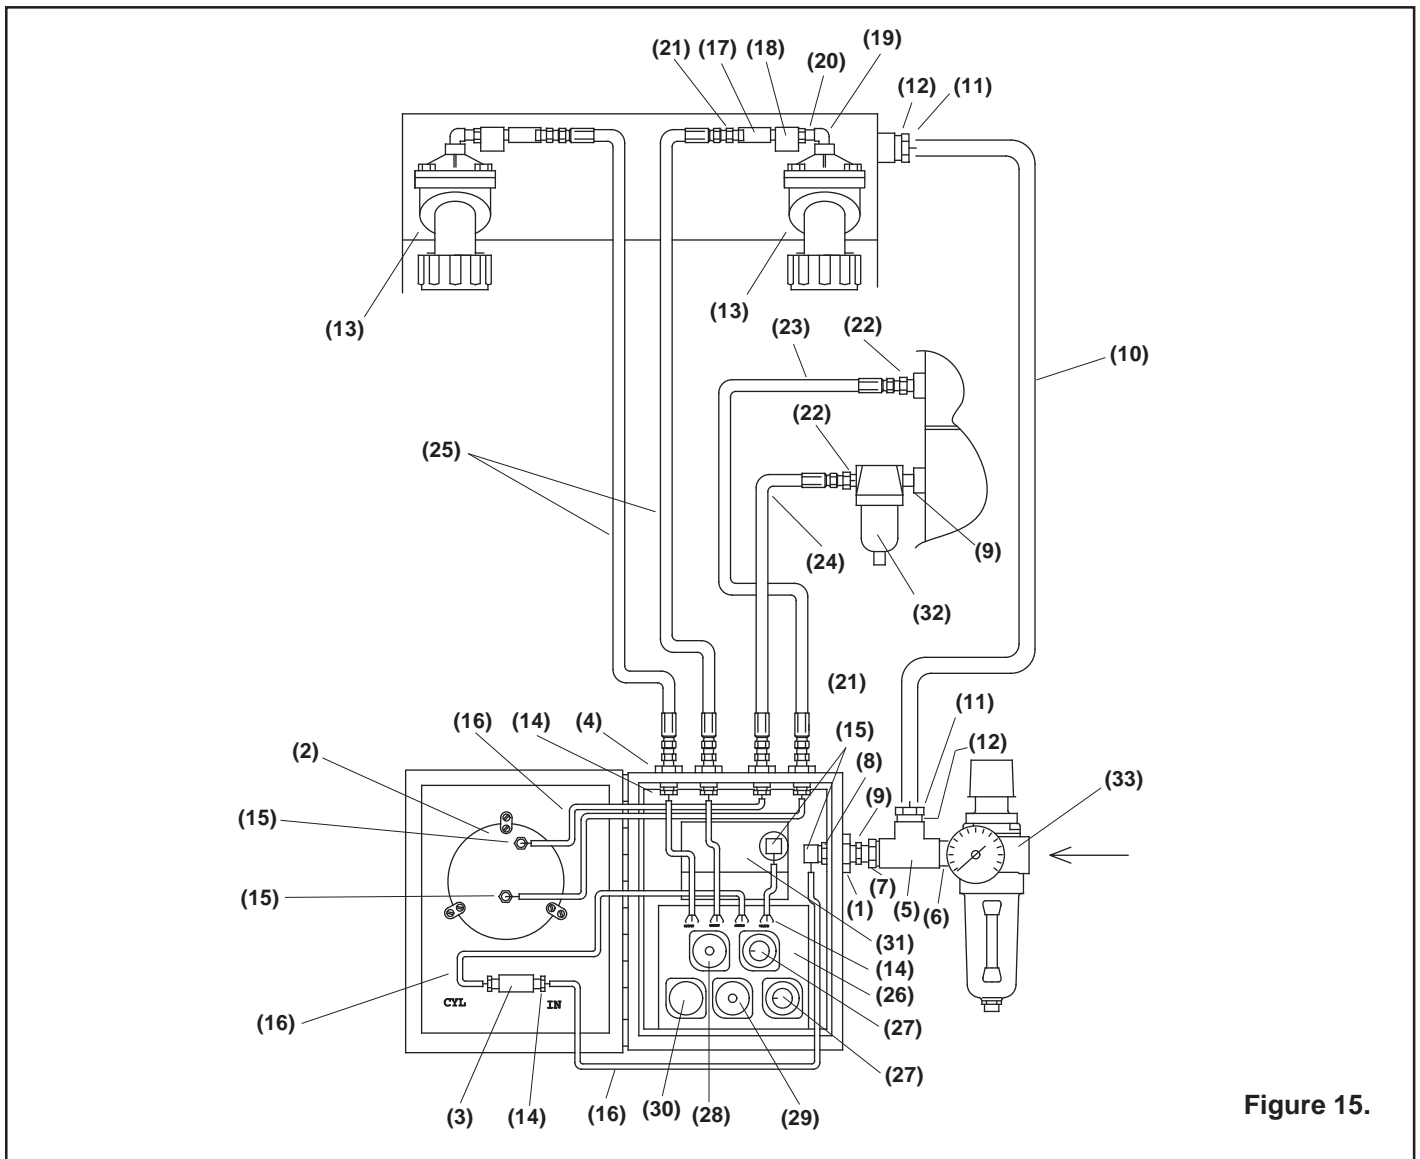

Figure 15.
9.8 Dust Collector Air Schematic, Figure 15